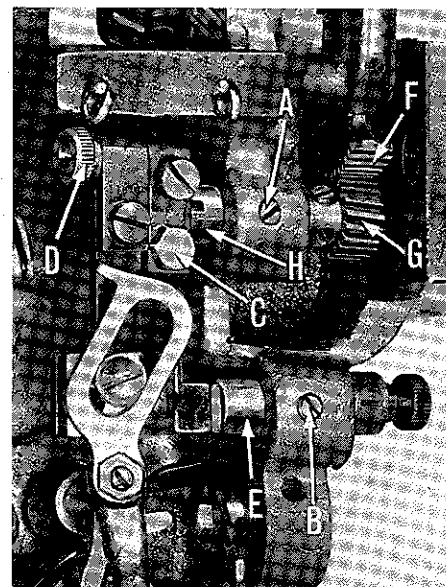

Fig. 8
To adjust the looper and spreader mechanism to the right or left, loosen set screws (A and B, Fig. 8) and move the whole mechanism in the required direction. Re-tighten set screw (A), and turn handwheel slowly in operating direction to remove any binds, and then, re-tighten set screw (B).